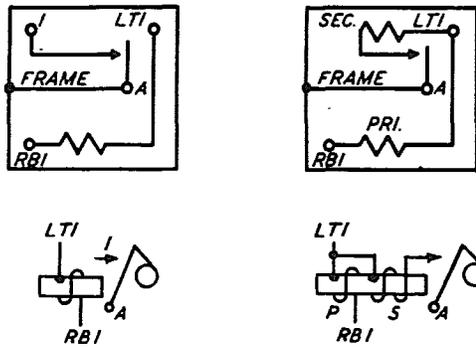

FIG. 62-WINDING AND SPRING TERMINAL ARRANGEMENT AS VIEWED FROM THE REAR (TERMINAL SIDE)- 5, 12 AND 14 TYPE MESSAGE REGISTERS
4.12 5, 12 and 14 Type Message Registers: Connections to the frame of these registers are indicated by "Frame". Other terminals are designated as shown in Fig. 62.